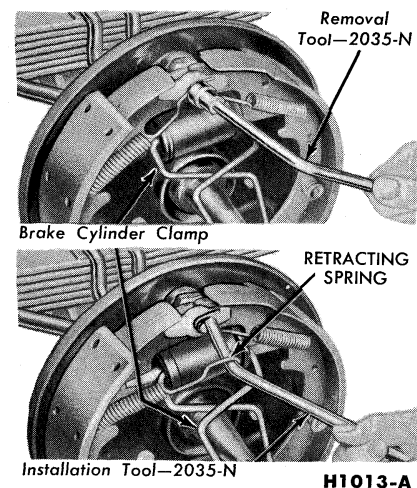

FIG. 11—Spring Replacement
2. Clamp the brake cylinder boots against the ends of the cylinder, and remove the brake shoe retracting springs from both shoes (Fig. 11).
5. Install the brake shoe retracting springs on both shoes (Fig. 11), being careful not to bend the hooks or to stretch the springs beyond the attaching points. **The primary shoe spring must be installed first.**